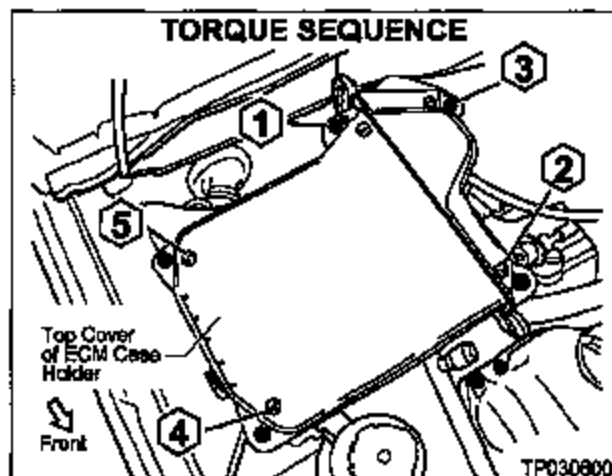

Figure 11
- In the order shown in Figure 11